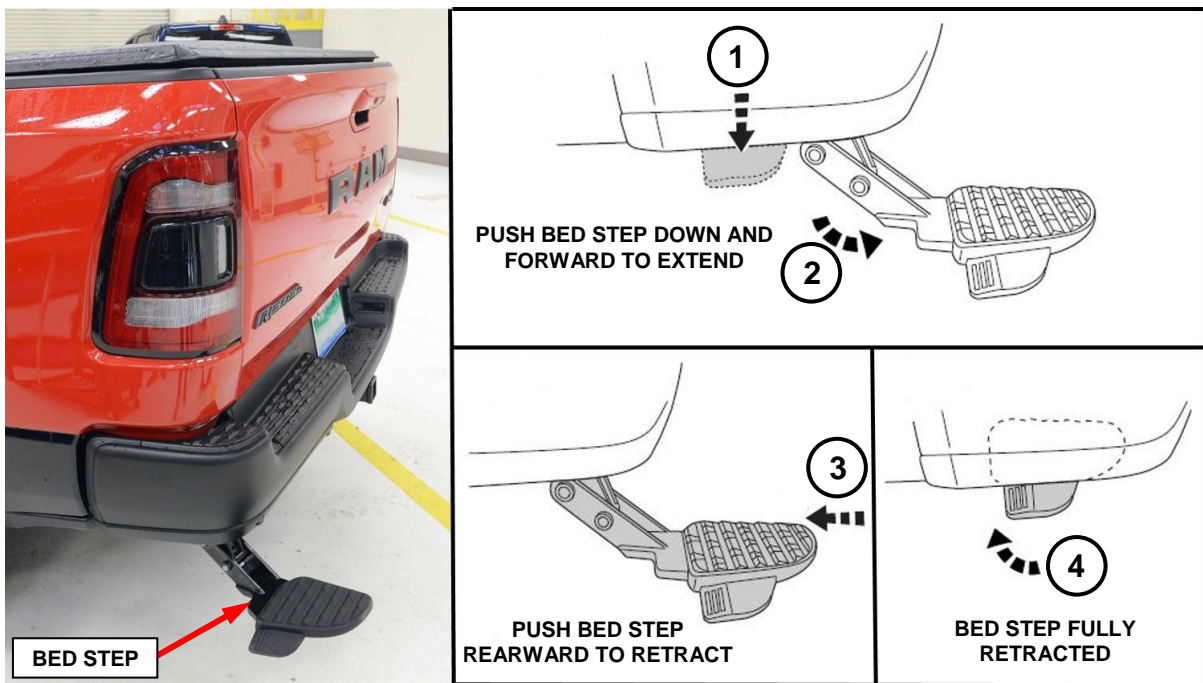

Figure 5 – Check Operation of Bed Step
- 9. Check operation of the bed step to ensure it functions properly (Figure 5).